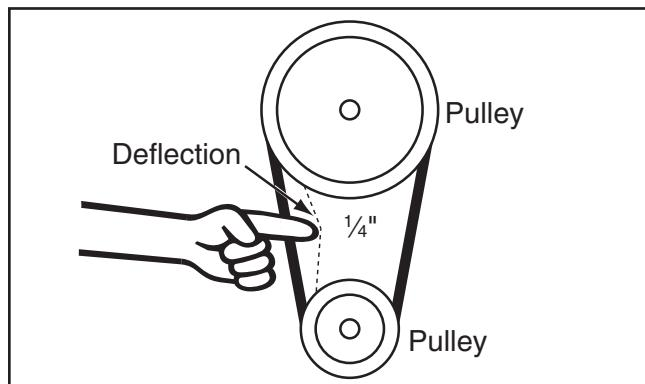

Figure 125. Correct timing-belt deflection.
5. Check belt tension: Each belt is correctly tensioned when there is approximately $\frac{1}{4}$ " deflection when it is pushed with moderate pressure, as shown in **Figure 125**.